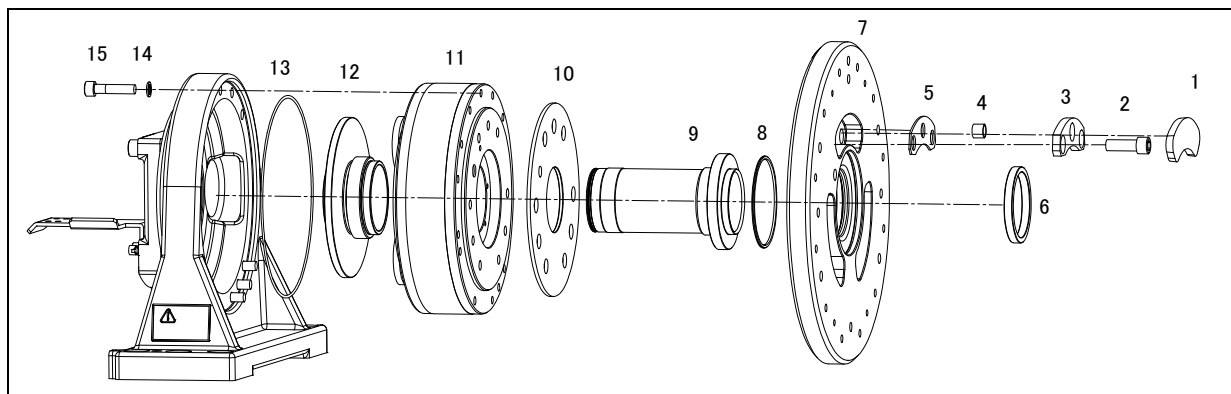

Fig. 6.2.1 Replacing the reducer (300kg payload (Hollow type)), (300kg/500kg payload (Hollow type))
- 3 Remove the covers (1), bolts (2), washer plates (3), insulators A (5) and B (6), collar (4), flange (7), and insulator (6) in that order.
- 4 Pull the pipe (9) out of the reducer (11).
- 5 Remove the bolts (15) and washers (14) that fasten the reducer on the base, and remove the reducer (11).
- 7 Reverse the removal steps to mount a new reducer. Replace the O rings (8) with new ones, and put the new O rings in place. Be careful not to damage the oil seal. Install the collar (4) after installing the insulator A (5) See Fig. 6.2.1 below table for the tightening torque and LOCTITE application.